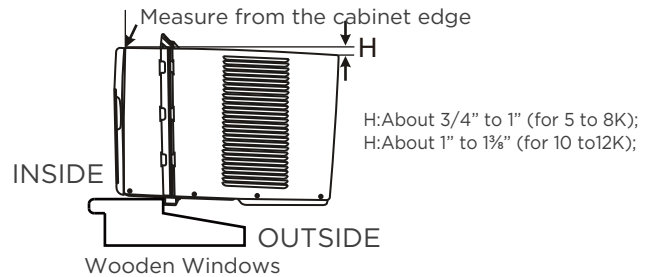
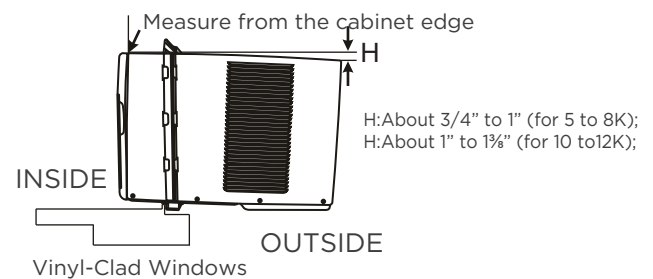

Fig.5A
Fig.5B
- A. Keep a firm grip on the air conditioner, carefully place the unit into the window opening so the bottom of the air conditioner frame is against the window sill (Fig.5A and Fig.5B). Carefully close the window behind the top rail of the unit.
NOTE: Check that air conditioner is tilted back about H (Fig.5A and Fig.5B) (tilted about 3° to 4° downward to the outside). After proper installation, condensate should not drain from the overflow drain hole during normal use, correct the slope otherwise.